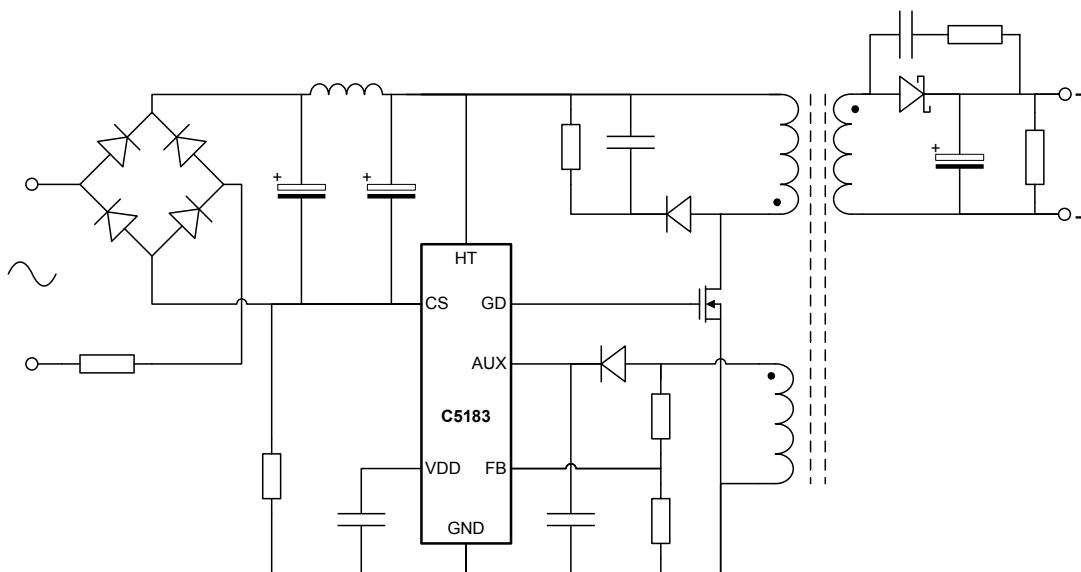

Figure 1: Typical Application Circuit
- CS** Primary current sense, via R_{cs} (see Figure 1).